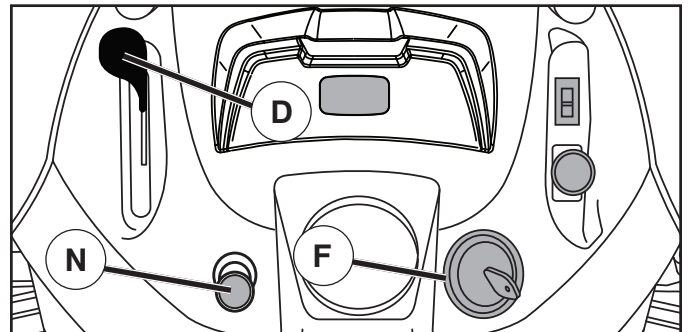

Fig. 7
TO USE THROTTLE CONTROL (D) (See Fig. 7)
TO USE CHOKE CONTROL (N) (See Fig. 7)
TO MOVE FORWARD AND BACKWARD (See Fig. 7)